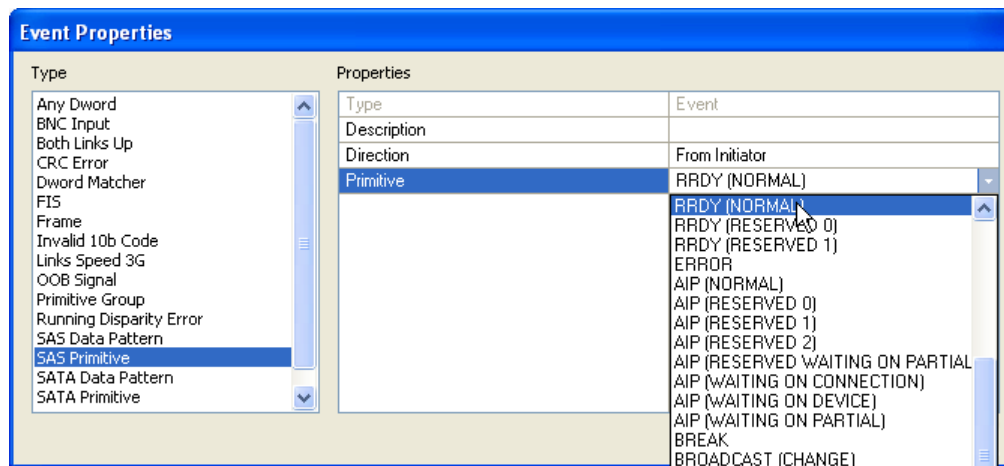

Figure 5.7 Example 1: Event Drop-Down List
- Step 5** Still in the middle column of the Event Properties dialog box, click on **Primitive** to bring up a drop-down menu that lets you choose the type of primitive you want to wait for in this scenario (Figure 5.7). In this example, it is RRDY (Normal).